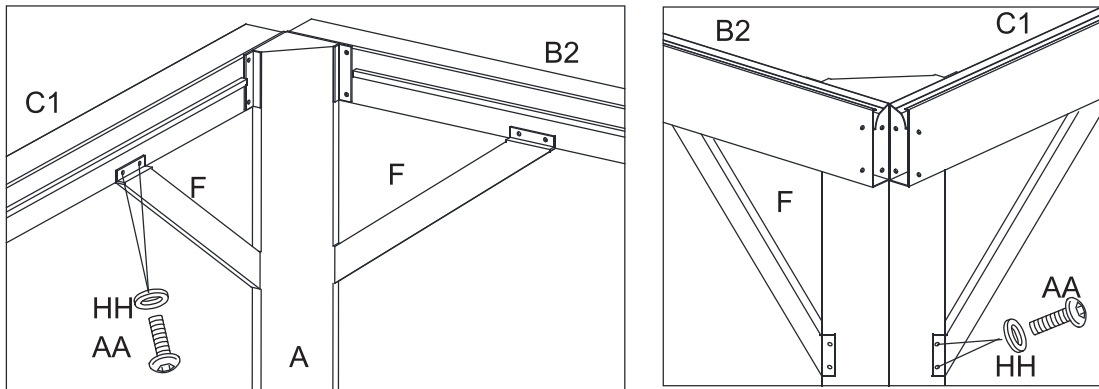

Figure 5.2
5.2. Attach Support Bars (F) to the Corner Post (A) and the Lintels (C1/C2) with Bolts (AA) and washer (HH). See Figure 5.2.